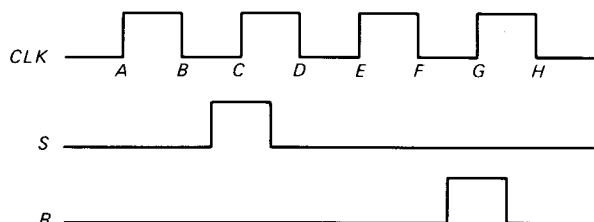

Fig. 7-17
- 7-1. The waveforms of Fig. 7-17 drive a clocked *RS* latch (Fig. 7-5a). If *Q* is low before time A,